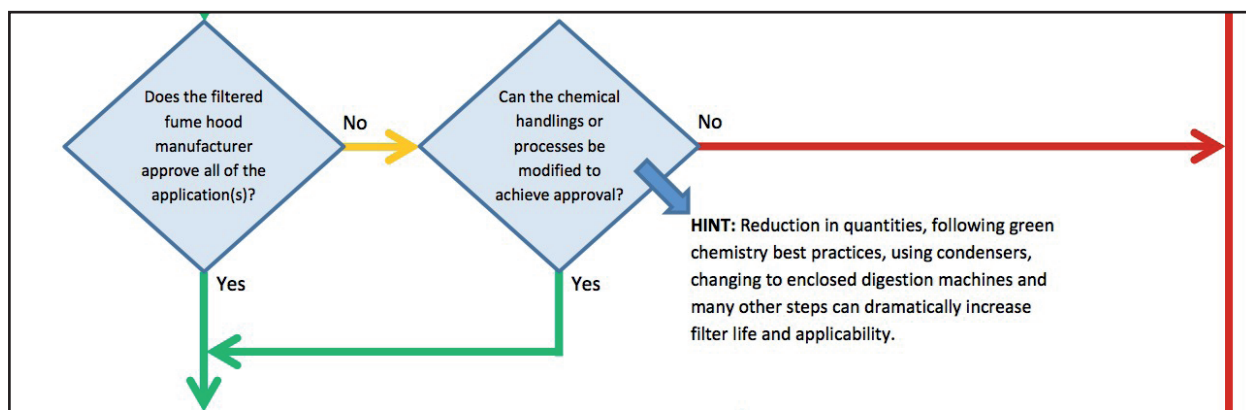

Figure 5: Step 3 - Application Approval or Changes
3) The next step is to perform the in-depth chemical analysis (see Figure 5).
- The review will assess (4) important categories:
- e. If all (4) categories are approved, it is time to move forward to the final verification step. If one or more categories are not approved, then depending upon the category, you may be able to modify the chemical handling to accommodate GFH: